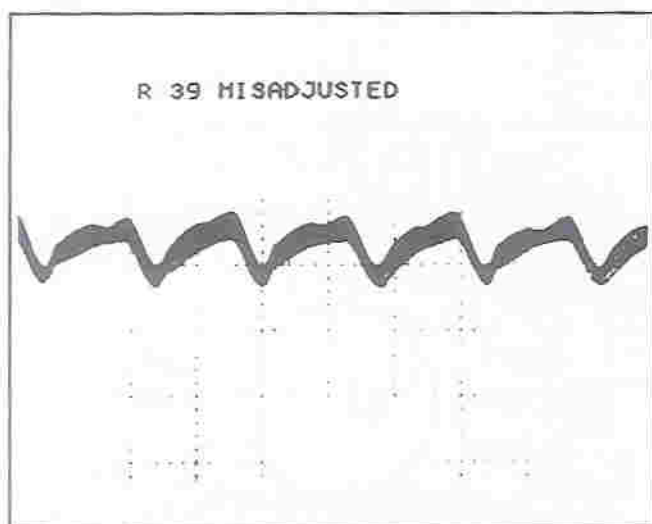
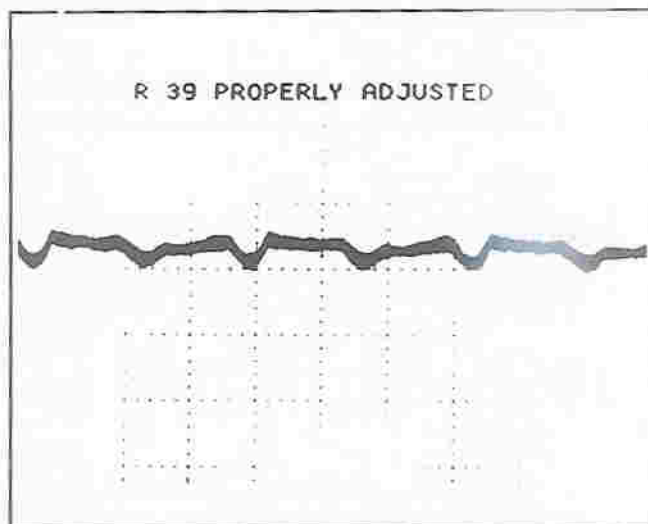

Figure 6 Results with Improperly Adjusted LF Cancel
Figure 7 Results with Properly Adjusted LF Cancel
Shown in Figure 6 is a distortion waveform resulting from an improperly adjusted R39. Notice the near sawtooth appearance of the waveform. The trace in Figure 7 shows the resulting waveform after R39 is properly adjusted. Notice the reduction in ripple.
5. Find R39 on the component layout in Figure 12. With a non-conducting or plastic-shaft screwdriver, adjust R39 for least amount of ripple as shown in Figure 7.